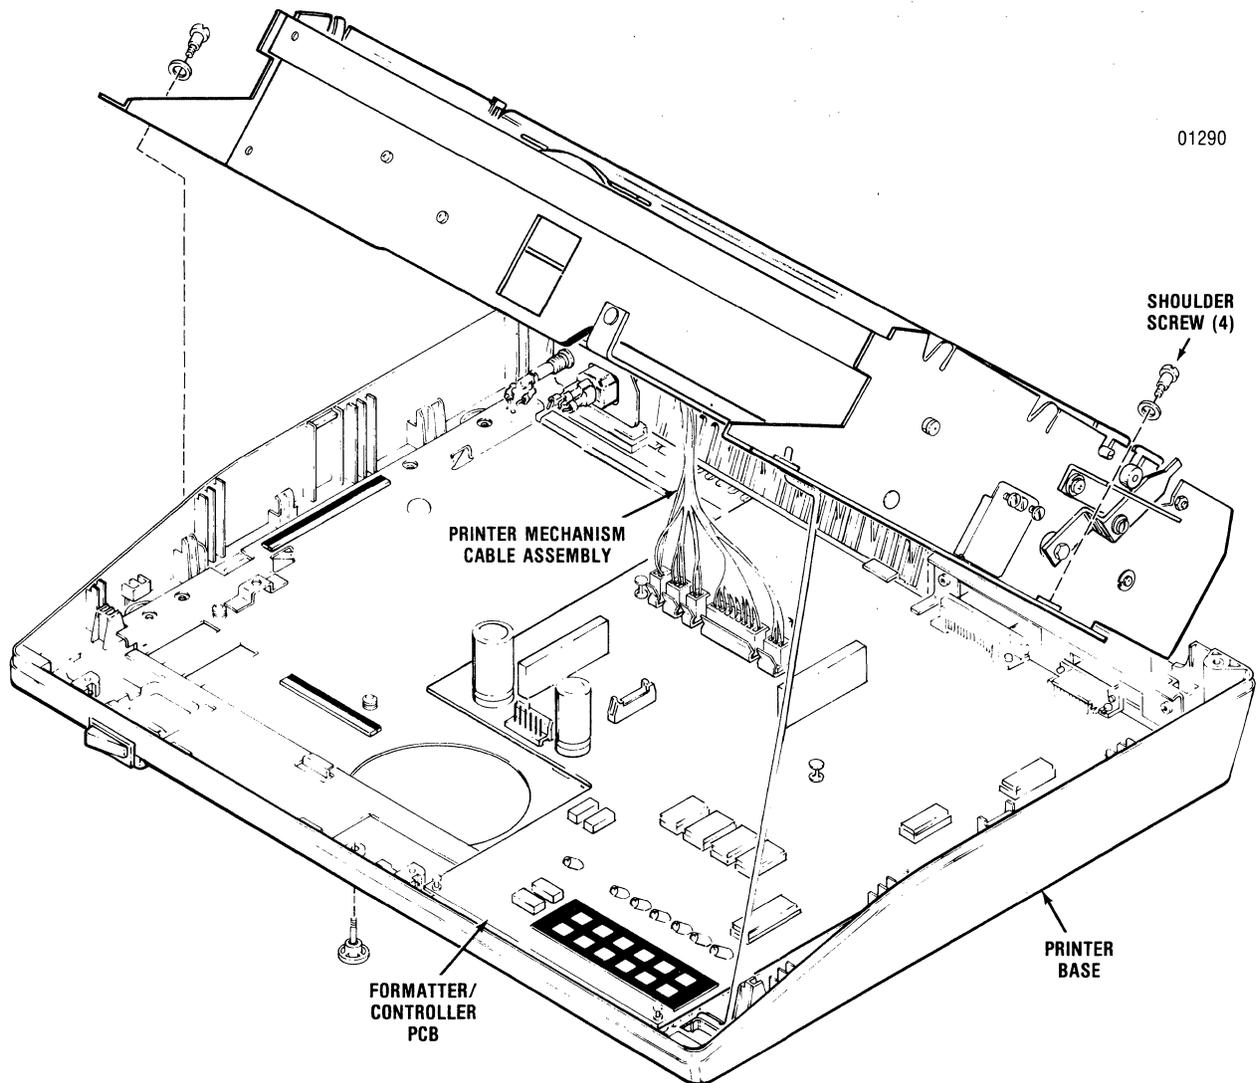

Figure 5-6 Tilting Printer Mechanism
The printer mechanism, illustrated in Figures 5-6 and 5-7, contains the frame assemblies and most of the mechanical assemblies used in the printer.
5.10.1 TILTING PRINTER MECHANISM—To place the mechanism in tilt position, refer to Figure 5-6 and perform the following steps: